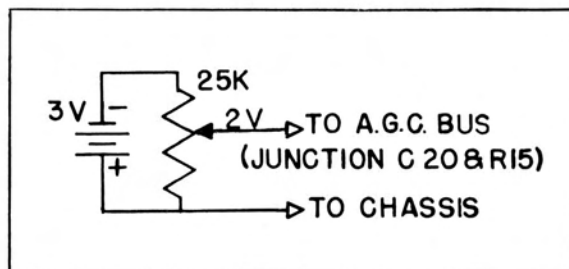

Figure No. 5. Test Voltage Supply
2. Connect a negative supply of 2 volts to the A.G.C. bus (junction of C-15 and R-4) and chassis. This supply can be obtained by connecting two 1-1/2 volt batteries in series as shown on Figure No. 5.